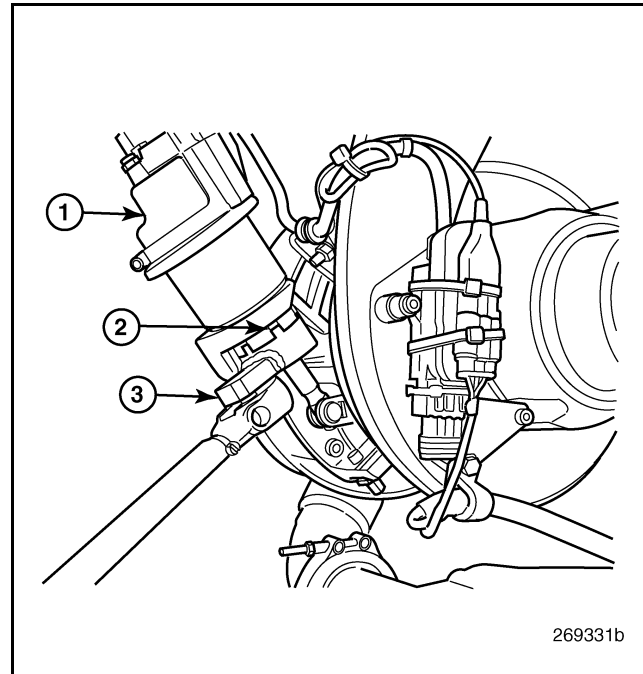

Figure 526 — Using Spanner Wrench to Tighten Spanner Nut
3. When tightening the spanner nut, make sure that the spanner wrench fully engages the nut as shown in the Figure 526. If not properly engaged, the wrench tangs can be damaged if the wrench slips out of engagement when torque is applied.